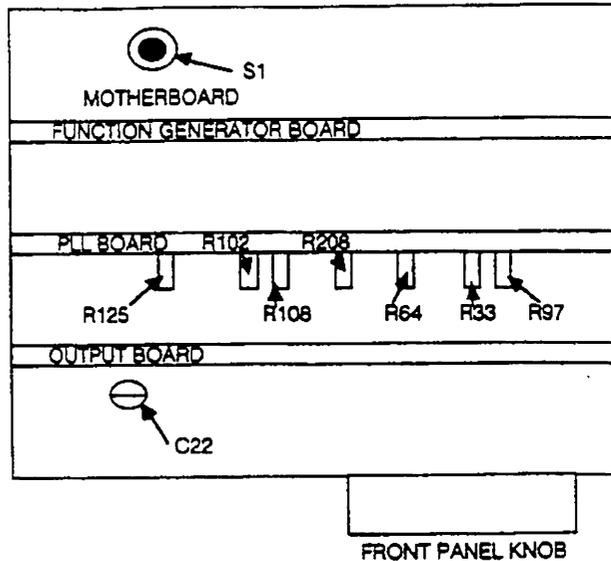

Figure 5-1. Calibration Location
3. Slide the top cover back. Press and hold down the internal calibration switch S1 (figure 5-1) while pressing the front panel CALIBRATE key.
- .. If incorrect, adjust C22 (figure 5-1) until the reading is within specified limits.
3. On the Model 288, slowly adjust the Front Panel Knob (figure 5-1) until the THD as displayed on the distortion analyzer is minimum. Verify that reading is ≤ -50 dB at 10 kHz.
- Adjust R33 (figure 5-1) until waveform peaks are clearly visible in the residue.
- If incorrect, adjust R208 (figure 5-1) until reading is within specified limits.
If carrier null is incorrect, adjust R108 (figure 5-1) for minimum indication..